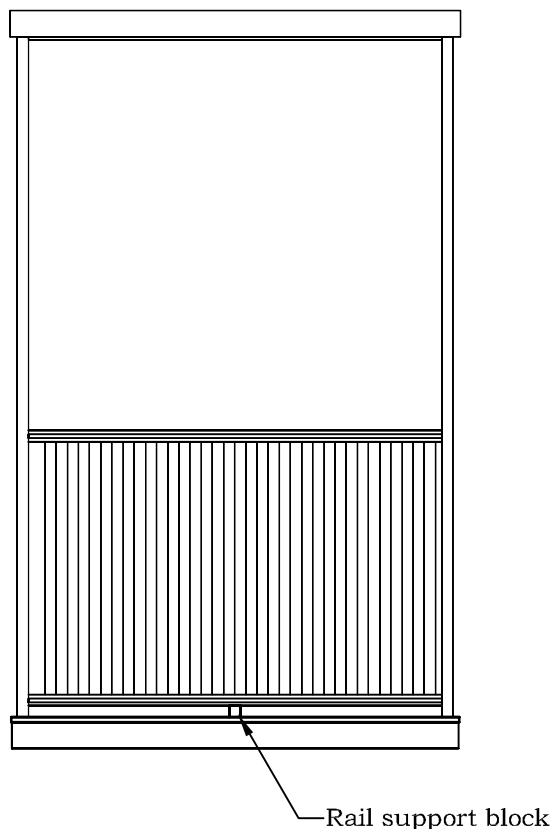

FIGURE W4
- Place a rail support block beneath the mid-point of each rail, see Figure W4. Screw two 3" nails from the bottom rail into the block. This will support your Sidewall section better.